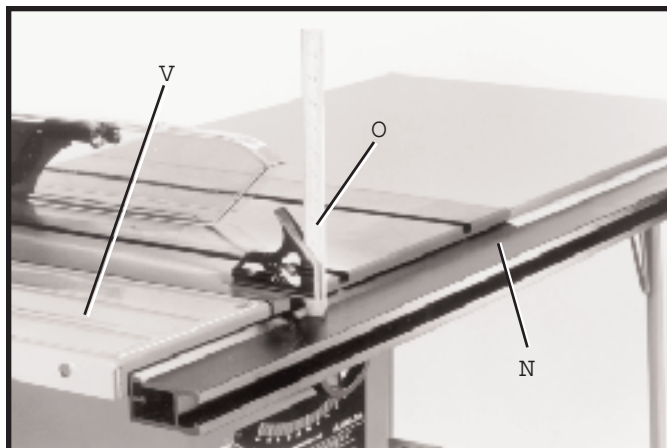

Fig. 32
19. Adjust the guide rail (N) Fig. 32, parallel with the saw table surface by placing a square (O), on the saw table at both the left and right front end of the table, with rule of square against flat surface on top of guide rail, as shown. The guide rail (N) can be moved up or down at either end. After you are certain the flat surface of the guide rail is parallel with the table surface, firmly tighten the two hex nuts that fasten the guide rail to the table. NOTE: For all saws other than Delta Series 2000 Contractor s Saws, continue with STEP 23.